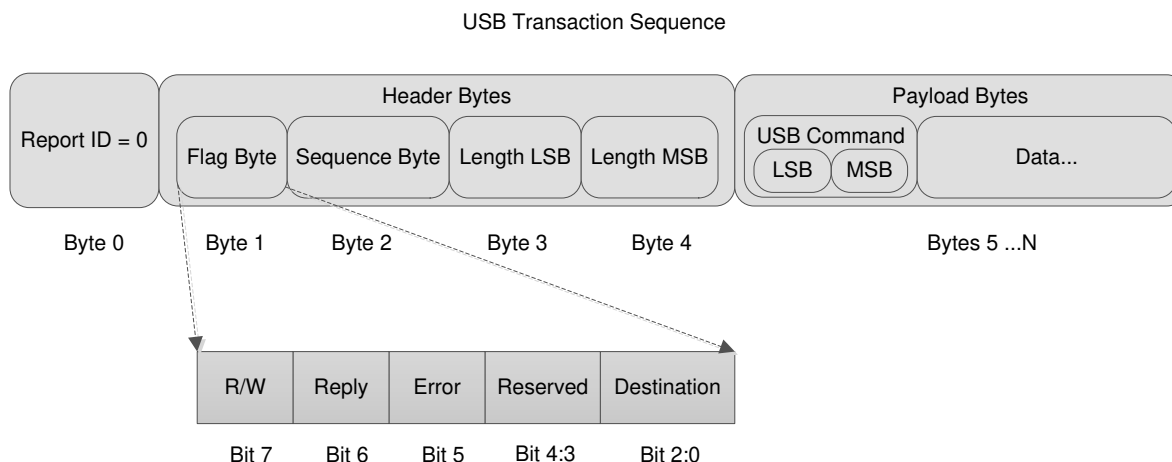

Figure 1-4. USB HID Protocol
The USB 1.1 HID protocol has the structure shown in Figure 1-4. The host must build a stream of bytes that consist of the Report ID, Header, and the payload. The following is a description of these three parts.
1) Flag Byte: Shown in Figure 1-4 and described in the Read and Write examples in Section 1.2.2 and Section 1.2.3.